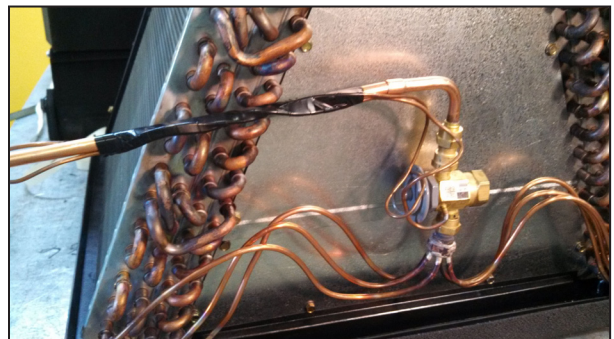

Figure 7 – Wrapping liquid line
- 5) The liquid line must be wrapped to prevent copper tubing from coming in contact with the tubing and the outer sheet metal cover. (See Figure 7)
- 10) The field fabricated liquid line, the equalizer line, and the sensing bulb cap tube must all be wrapped to prevent copper tubing from coming in contact with the tubing and the outer sheet metal cover. (See Figure 7)